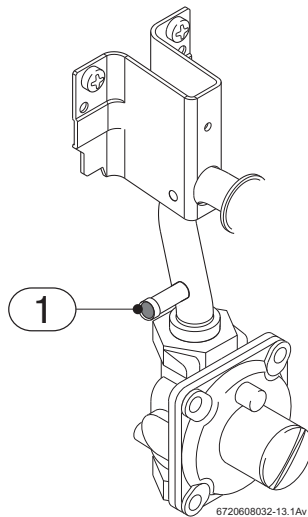

Fig. 15 Gas pressure measuring point
- ▶ Remove front cover and locate inlet gas pressure measuring point on the left side, see Fig. 15.